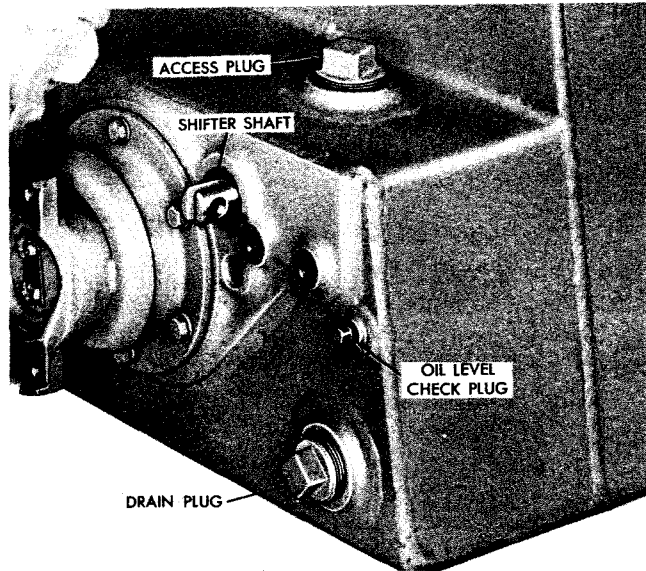

Fig. III-2. Model CRT 3531-1 or CRT 3630-1 transmission—left-front view, showing output disconnect and plugs
(2) On CRT 3531-1 or 3630-1 transmissions, the oil level plug may be located either at the lower-right side, or lower-left front of the transfer case (fig. III-2). Remove it for checking the oil. If the oil level is low, add sufficient oil to bring the level to the plug opening. If the level is high, drain to the level of the plug.